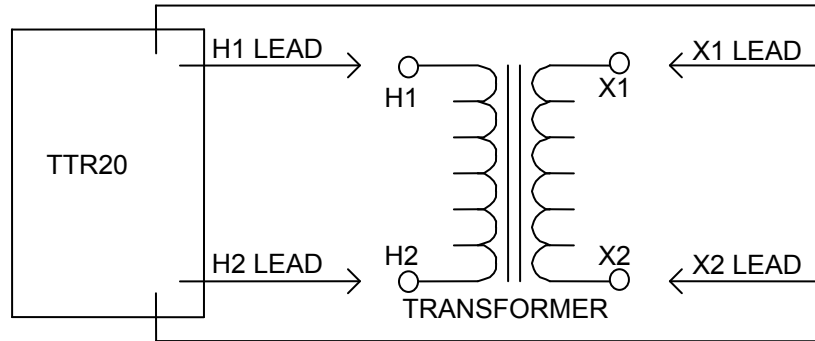
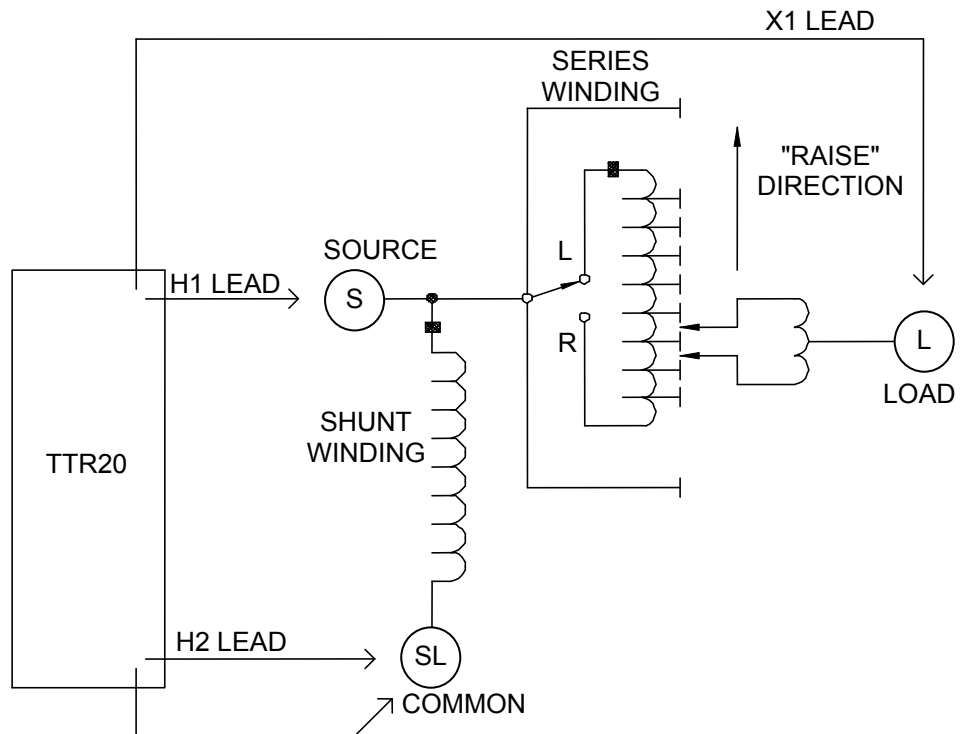

Figure 4-1 Setup for Testing Single-Phase Transformer
Figure 4-3 Setup for Testing Single-Phase, Type A (Straight Design) Step Voltage Regulator
3. Connect the clips marked X1, X2 of the test lead to the corresponding (low-voltage winding) terminals of the transformer under test. Figures 4-1 and 4-2 show test setups for single-phase transformers. Figures 4-3 and 4-4 show test setups for voltage regulators.